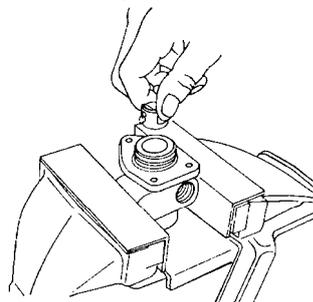

Figure 130 Removing the Tappet
- f. Clamp the pump in the vice so that the tappet assembly faces upward. Pry off the snap-ring retaining the tappet, remove the tappet assembly and remove the push rod (Figure 130).